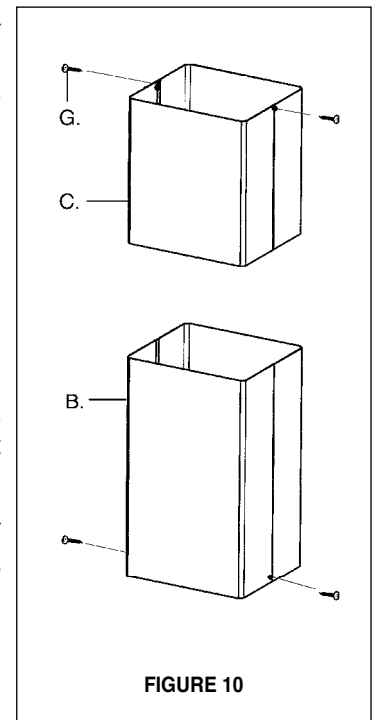

FIGURE 10
1. The UPPER CHIMNEY COVER (C in FIGURE 10) attaches using two screws provided (G in FIGURE 10). If using the High Ceiling Chimney Kit, use the UPPER CHIMNEY COVER supplied with the kit. Slide up and attach the UPPER CHIMNEY COVER.
3. The LOWER CHIMNEY COVER (B in FIGURE 10) attaches using two screws provided (G in FIGURE 10). Install the LOWER CHIMNEY COVER